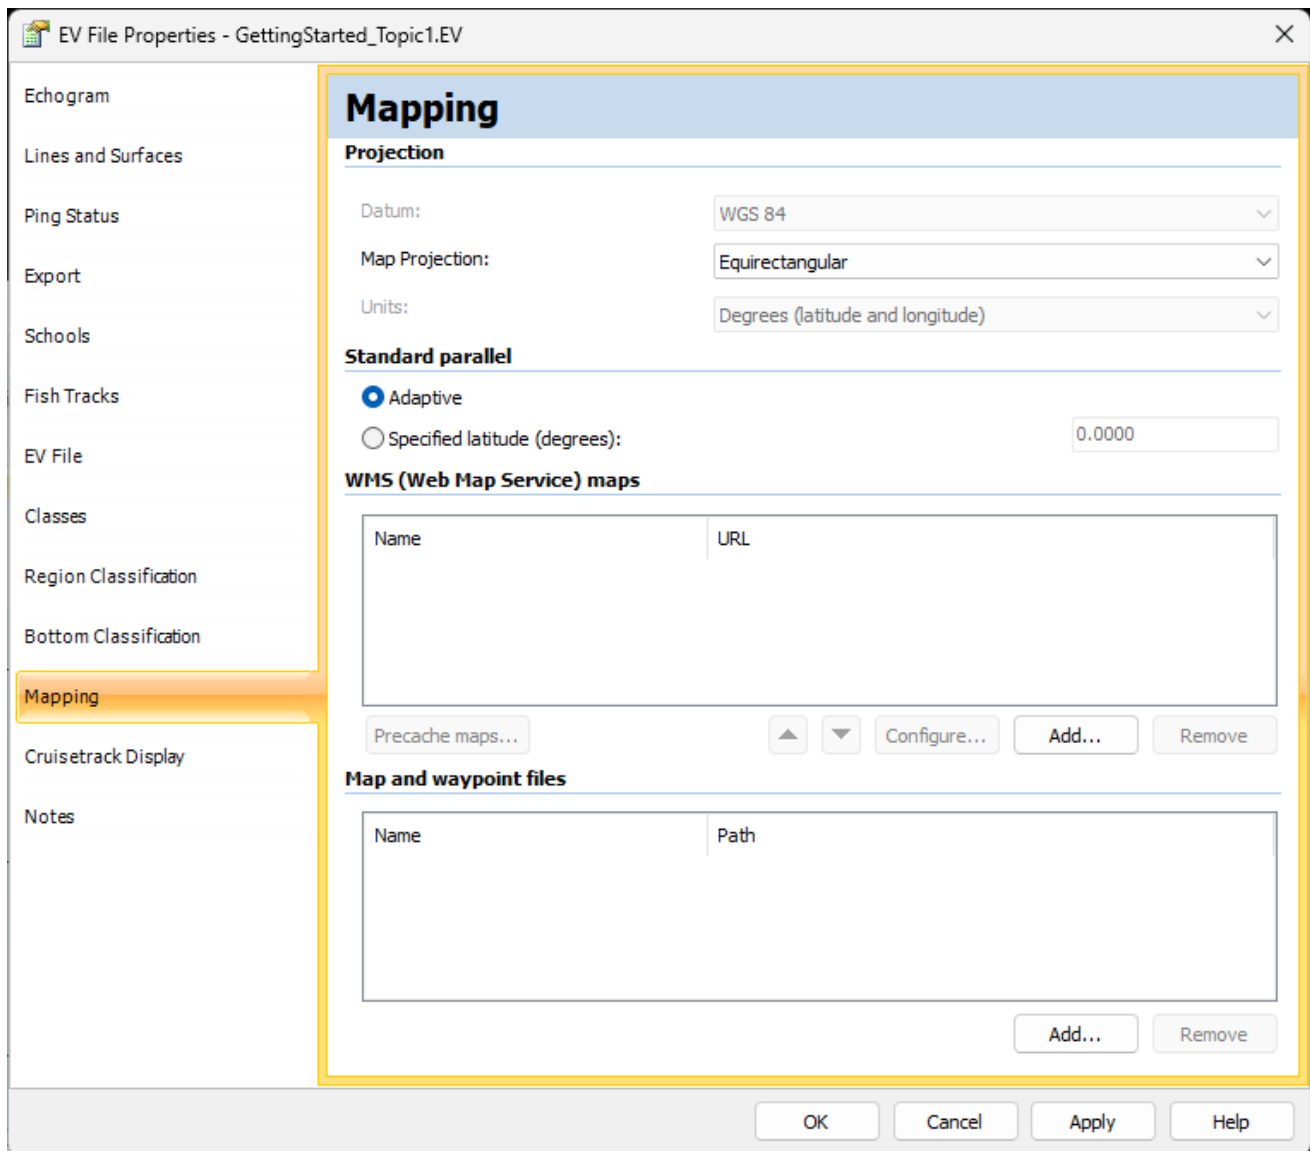

Figure 8. The Mapping page of the EV File Properties dialog box.
7. Click the **Mapping** tab (Figure 8).
9. Select `tasmania2pts.MIF` and click **Open** to close the explorer window and return to the EV File Properties dialog box (Figure 8).